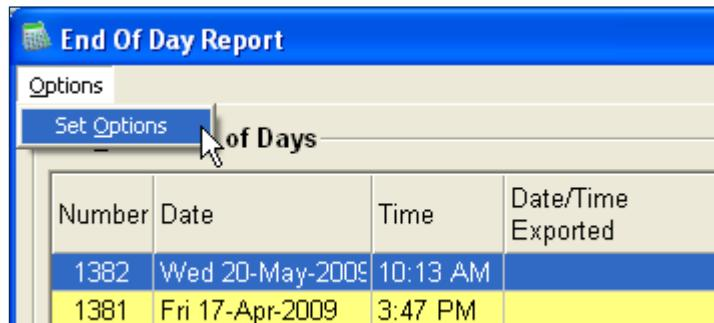

Figure 90
1. Within the 'End of Day Report' window, select 'Options' → 'Set Options' (as shown in Figure 90).